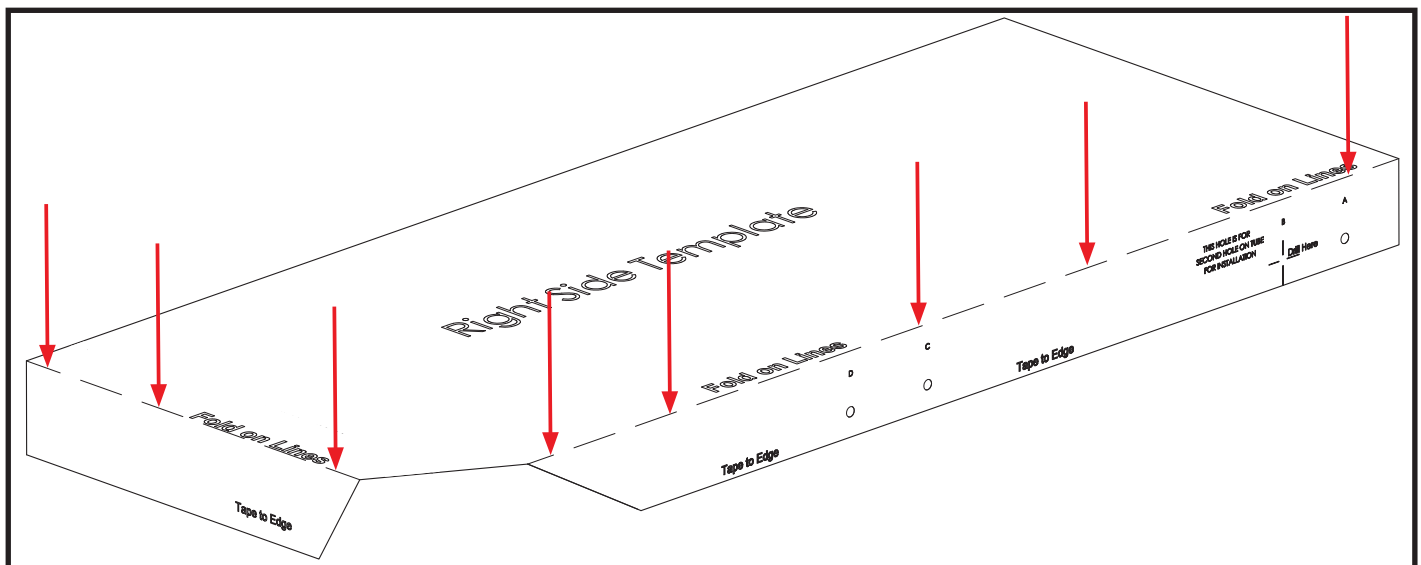

Figure 2.2
3. Locate the dashed lines on the template and fold downward (Figure 2.2).